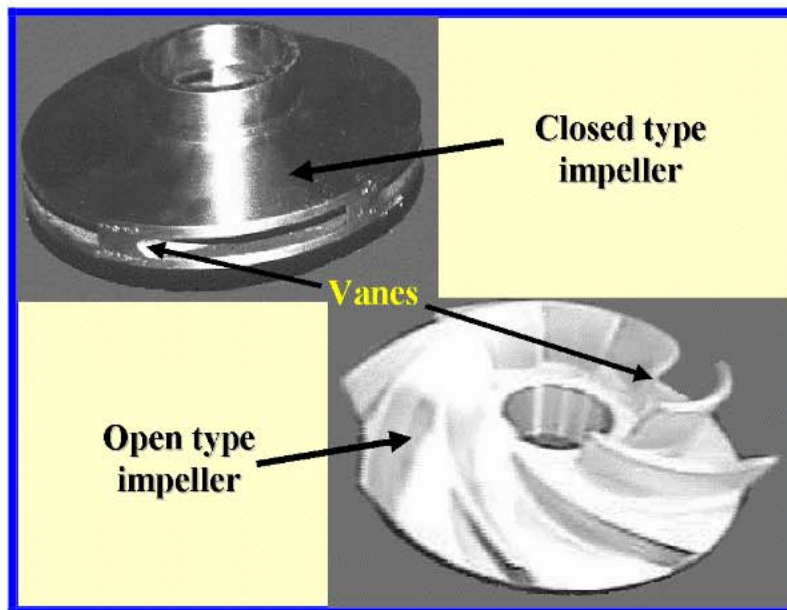

Figure B.07: Impeller types
- Based on mechanical construction (**Figure B.07**)